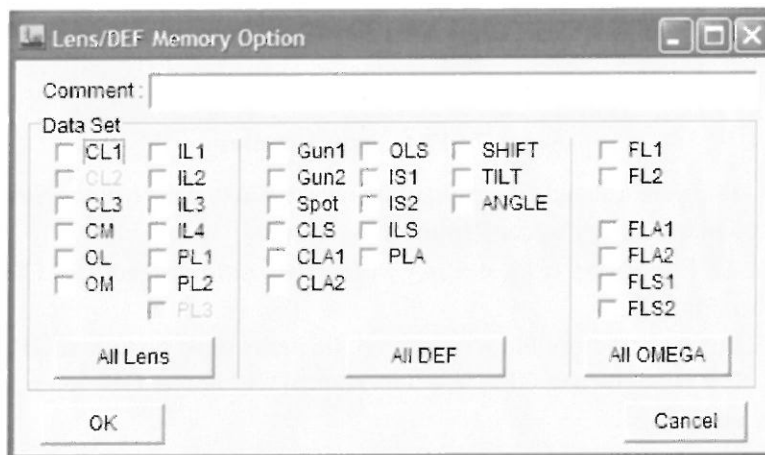

Fig. 5.76 Lens/DEF Memory Option window
1. To save the current values of the presently used lens and deflection system, click the **Save** button in "Lens/DEF Memory", and display the "Lens/DEF Memory Option" window (Fig. 5.76).